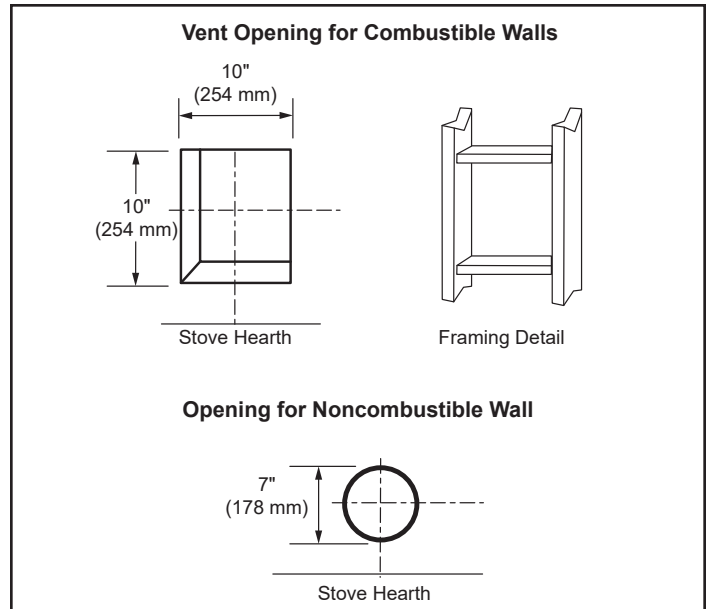

Figure 3.11 - Locate Vent Opening on Wall
1. Locate vent opening on the wall. It may be necessary to first position the stove and measure to obtain hole location. Depending on whether the wall is combustible or noncombustible, cut opening to size, Figure 3.11 (For combustible walls first frame in opening.) Combustible Walls: Cut a 10" x 10" (254 x 254 mm) hole through the exterior wall and frame as shown, Figure 30. Noncombustible Walls: Hole opening must be 7" (178 mm) in diameter.